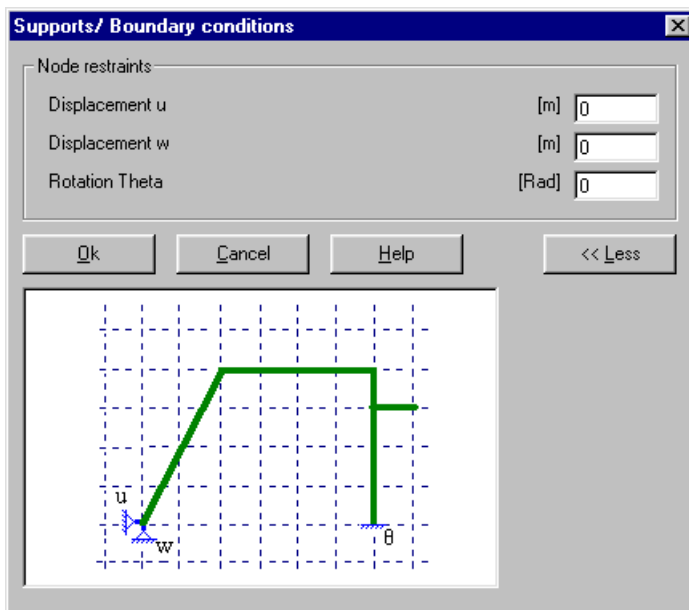

Figure 8-22 "Supports/ Boundary conditions" dialog box
- "Supports/ Boundary conditions" dialog box in Figure 8-22 appears